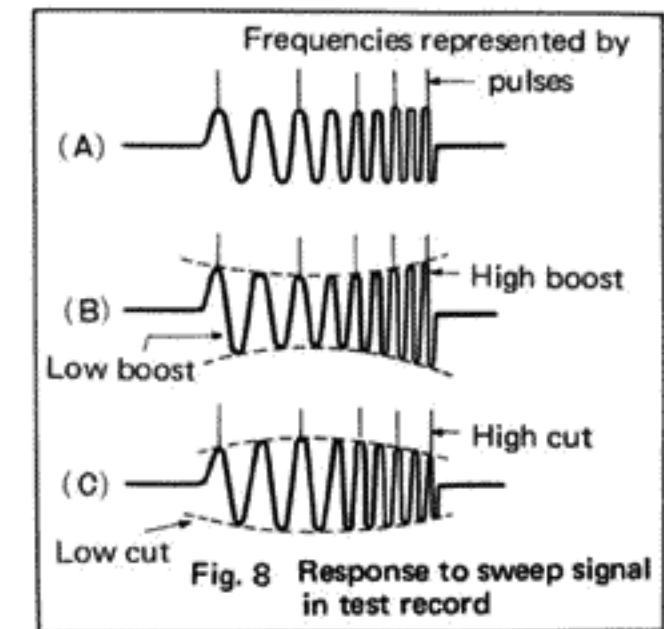

Fig. 8 Response to sweep signal in test record
When testing a phono cartridge, shown in Fig. 7 (B), a frequency test Fig. 8 (A) will prove useful. If a flat response is noted with the use of such a record, it means that the cartridge has a flat characteristic of response, provided that equalization is accurately established.
In the same set-up as above, turning the tone control of the amplifier will alter the displayed waveform to indicate the effectiveness of its tone control. Waveforms (B) and (C), Fig. 8, are examples of such altered